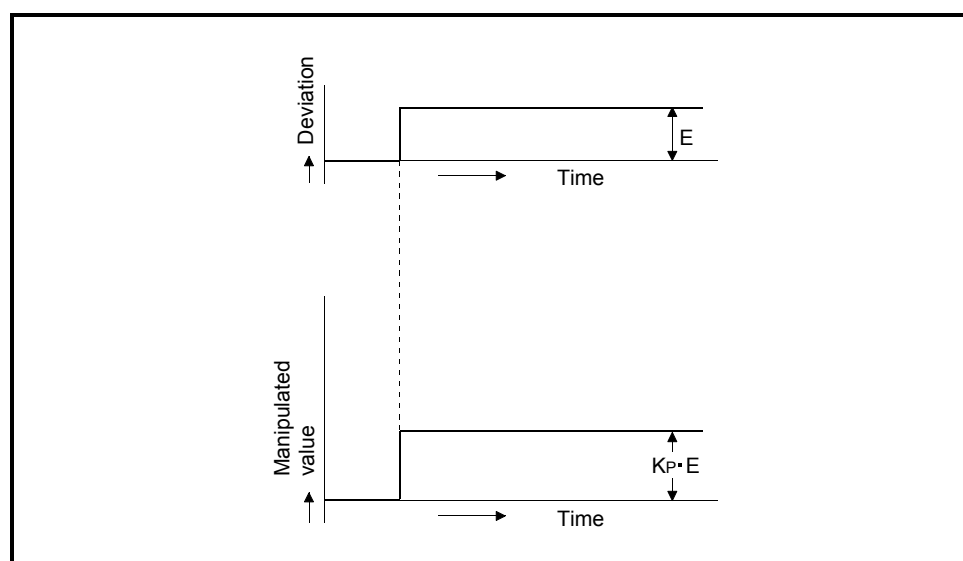

Fig. 1.8 Proportional action for step response
- (3) The proportional action for the step response when the error value is constant is shown in Figure 1.8.
- (4) The manipulation value changes between -5.0% and 105.0 %. As the  $K_P$  increases, the manipulation value for the same error value becomes larger, and the corrective action becomes stronger.
- (5) The proportional action will generate an offset (remaining deflection).